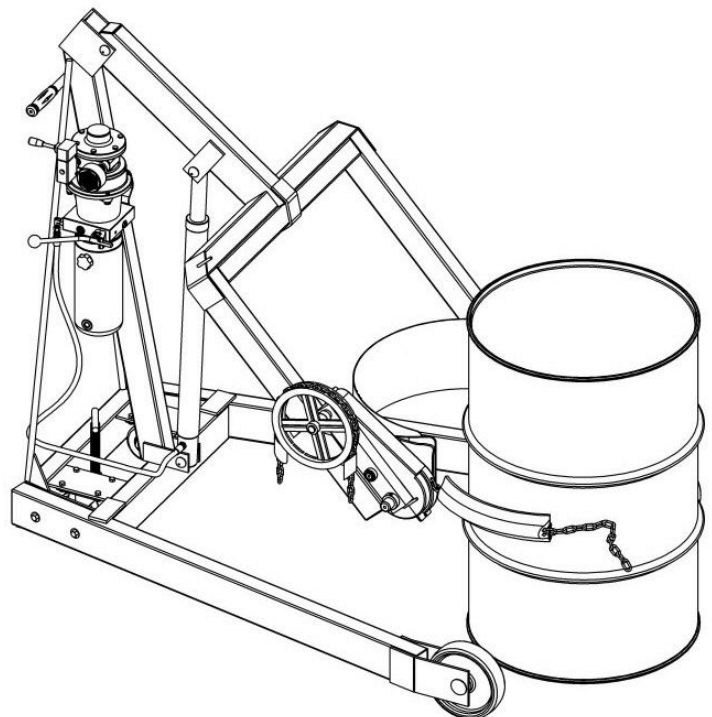

Figure 3.1
The step-down floor lock is located behind the base (figure 3.1). To activate, step down on the floor lock until it locks in down position. When floor lock is activated it prevents unwanted free wheeling of unit. Floor conditions determine effectiveness of floor lock. Operator should verify its holding action before depending on it to hold.
- 2.) Using “LIFT” control as described in “**Machine Description - Controls**”, position drum holder assembly with back band at middle of drum (Figure 3.1). With ratchet plate swung open and cinch chain hanging from chain hook, push unit until back band rests firmly against drum. Some adjustment to tilt angle of saddle may be necessary to ensure band fits flush on drum.